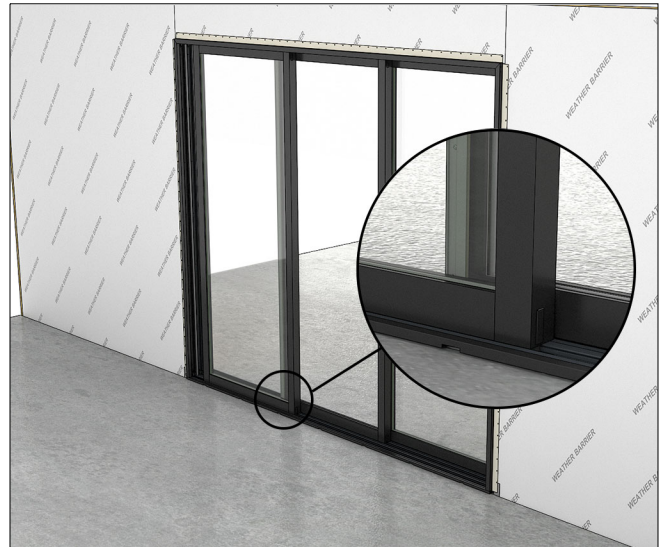

Figure 78
3. Install stationary panels last. Install the panel so it is as close to the jamb as possible but overlapping the previous panel installed. See Figure 78.